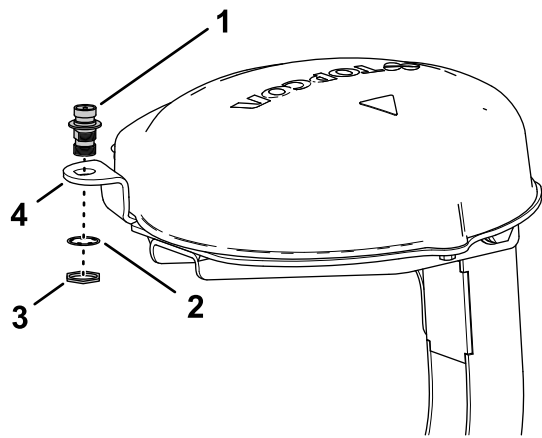

Figure 159
1. Align the coaxial coupler through the opening in RTK-antenna flange with the bulkhead threads of the coupler down (Figure 159).
2. Assemble the coaxial coupler to the flange of the receiver plate with the lock washer and jam nut, and tighten the jam nut by hand (Figure 159).